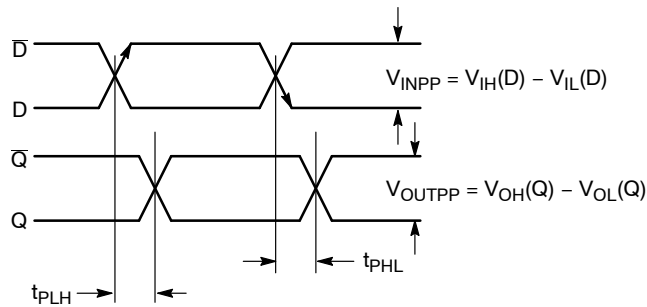

Figure 6. AC Reference Measurement
18. See Figure 6. $t_{\text{skew}} = |t_{\text{PLH}} - t_{\text{PHL}}|$ for a nominal 50% differential clock input waveform.
21. See Figure 6. $t_{\text{skew}} = |t_{\text{PLH}} - t_{\text{PHL}}|$ for a nominal 50% differential clock input waveform.